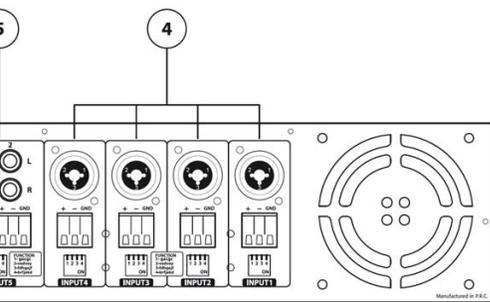

fig. 2
ons (**fig.2 ref.13**) unscrew to remove the unit cover.
16Ω) (**fig.2 ref.13**).
oltage (**fig.2 ref.13**).